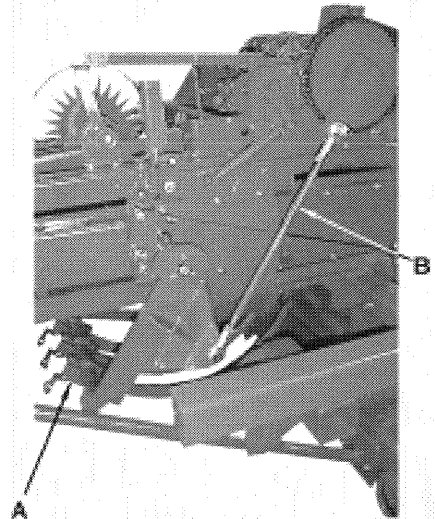

Fig.6
B. The needles should clear the twine disc cleaner by 1/8". To increase the distance between the needle and the twine disc cleaner, loosen the front and tighten the rear needle anchor bolts "A," Fig.6. To decrease the clearance reverse the procedure.
D. Adjust needle height by loosening the lock nuts on the needle yoke drive rods "B," Fig.6. Turn the rod to the right or left for desired setting. Be sure both needle yoke rods are adjusted for equal load at top dead center.